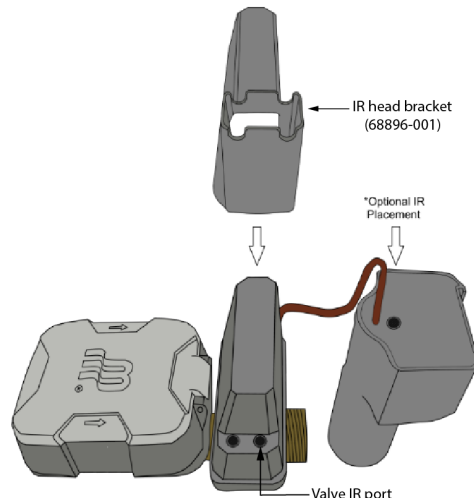

Figure 3: Place IR bracket over the valve
1. Place the IR bracket (68896-001) over the valve as shown in Figure 3. The bracket sits on the valve so the valve IR port is visible through the opening.